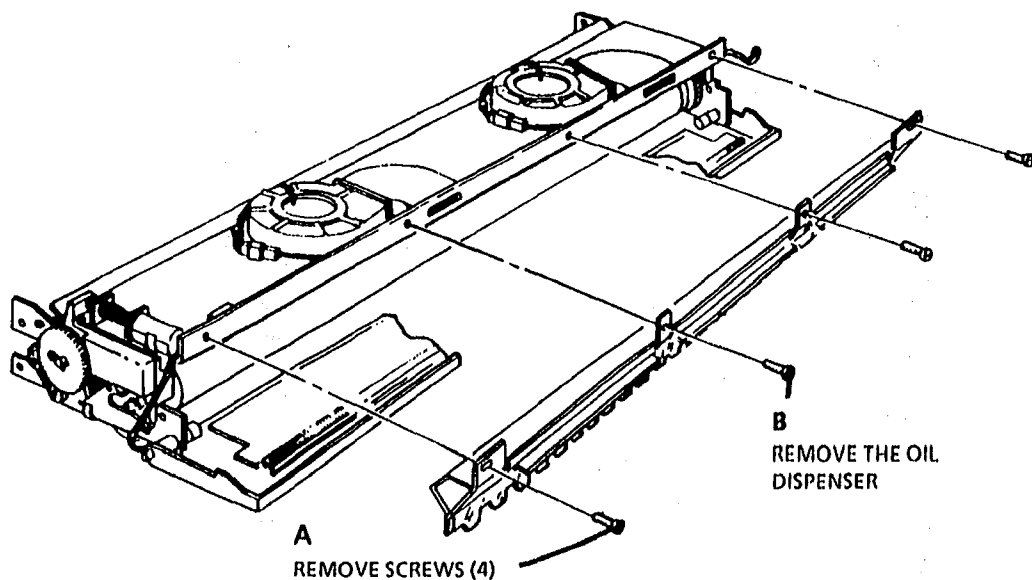

Figure 1. (2510) Remove the Dispenser Assembly
2. (2510, Figure 1; 2515, Figure 2): Remove the oil dispenser assembly (REP 10.5 or 10.6).